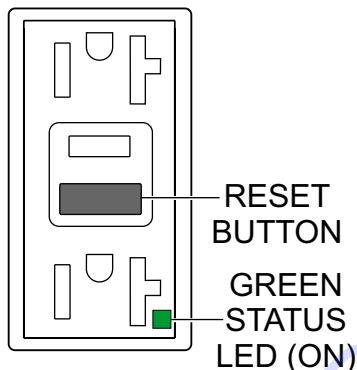

Figure 76. GFCI Receptacle (ON/Restore)
- Press the **RESET** button (Figure 76) to restore power to the GFCI receptacle and verify that the status LED is **ON (GREEN)**.